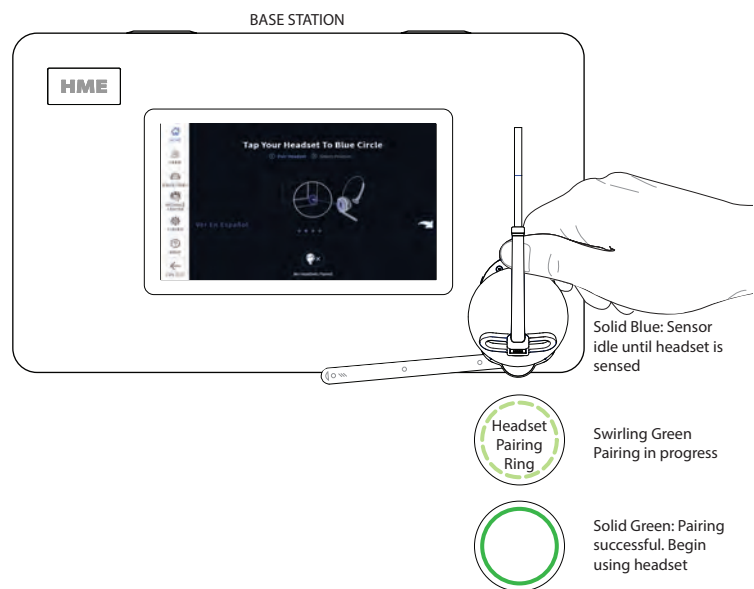

Fig. 6.2
3. Hold the keypad side of the headset against the Headset Pairing Ring (solid blue circle) on the Base Station to pair. Pairing begins automatically as soon as the headset is sensed. The circular blue light turns a swirling green to indicate pairing is in progress (Fig. 6.2).